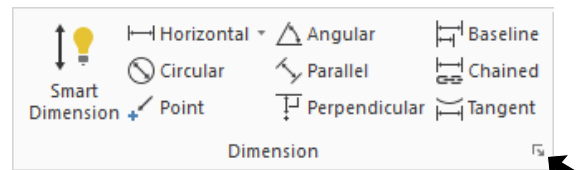

Fig. 23
Step 1. On the Drafting tab **Drafting** and click **Dimension Dialog Box Launcher** (Alt-D), Fig. 23.